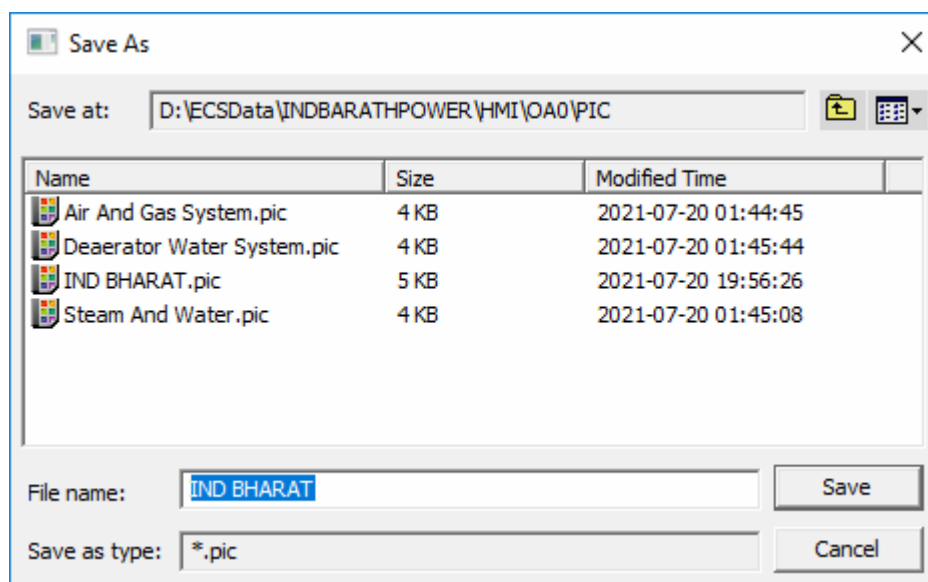

Figure 3-8 Dialog box “Save As”
4. Save: It has the same function as  on ordinary bar, which is used to save the completed graphics to the hard disk. When saving a new graphics file, the “Save As” dialog box as shown in Figure 3-8 will pop-up after clicking this command or the icon , and the save directory is the PIC folder in the corresponding project of the configuration catalog (no other option), then input the file name and click “Save” (file name can’t contain the following characters: \ / : * ? ” < > | ! @ # \$ % ^ & =); when saving an existed file, you can click this command, and the edited file will cover the previous one.